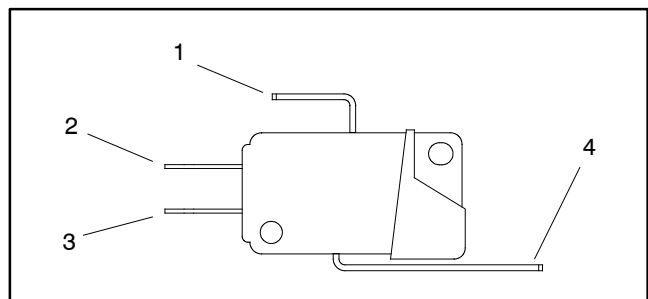

Figure 48
4. Connect a multimeter (ohms setting) across the normally open (NO) and common terminals of the switch (Fig. 48).